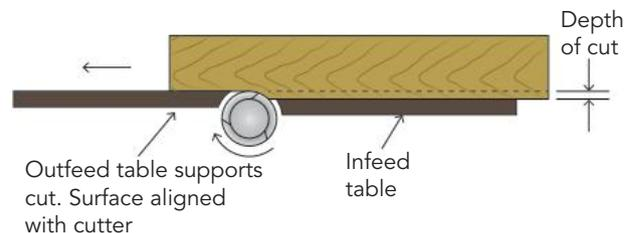

Figure 10.19 The blades on a cutter head are set level with the rear table
- Cutter head: the section of the machine that houses the three (sometimes four) knives (Figure 10.19).